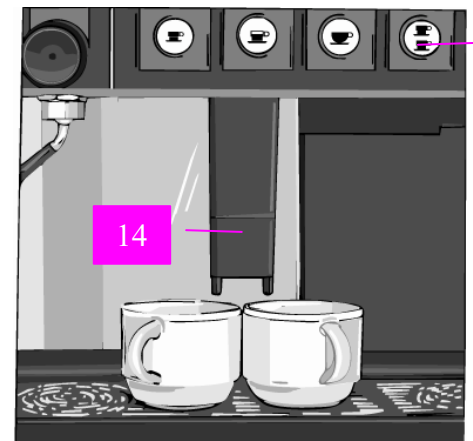

Figure 1
The swivelling coffee dispenser spout **14** and combination spout **7** are variable and adapt to suit the cups you see (see Fig. 1 or Fig. 2).
1. Place two espresso cups beneath the swivelling coffee dispenser head **14** (see Fig. 1).